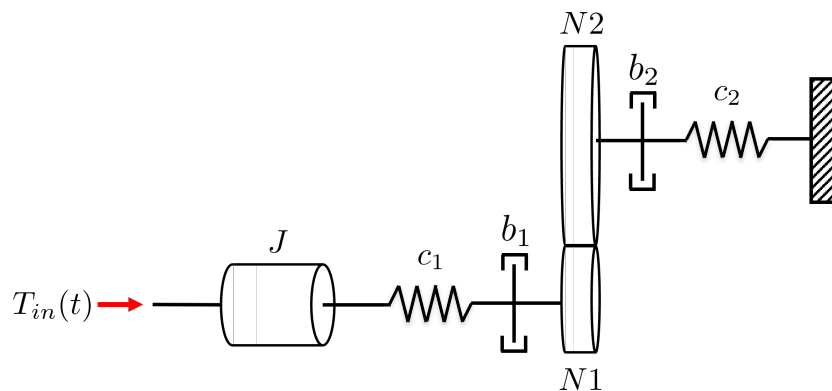

Figure 6: A simplified model of an electric vehicle drive system.
A simple mechanical system is shown in Figure 6. The system consisting of a torque input T_{in} which is applied to a rotational inertial with moment of inertia J_1 . The inertia is coupled to a spring with compliance c_1 , which is also coupled to a rotational damper, with damping coefficient b_1 , and gear set. The gears have number of teeth N_1, N_2 on the low and high sides, respectively. The high side of the gears is connected to a rotational damper with damping coefficient b_2 and spring with compliance c_2 . The second terminal of the spring is rigidly fixed to a wall.
- (10%) Construct a bond graph for the system shown in Figure 6, assigning a power convention and causal strokes. Indicate any causality issues with the graph. Note that your graph should be a-causal.